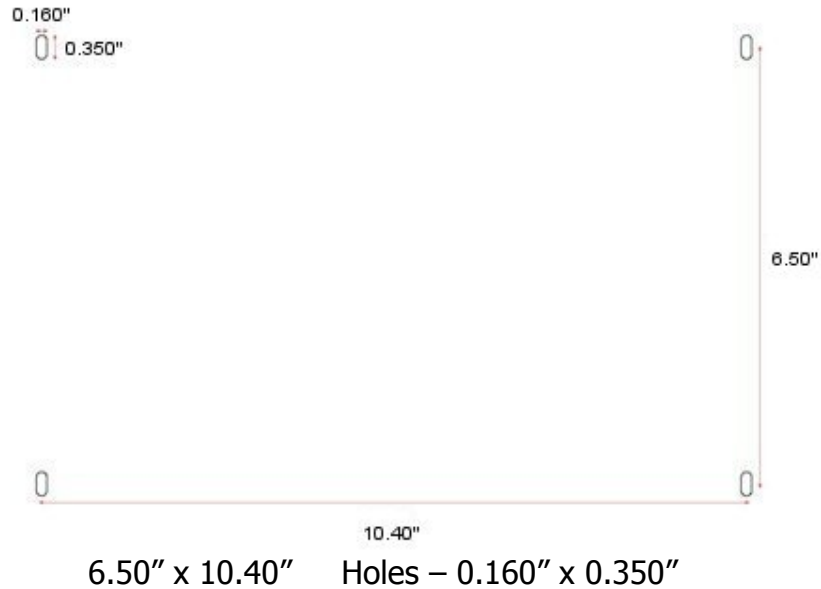

Figure 4 – Drilling Template
Step 1: Mark the holes according to the drilling template (Figure 4).
Step 3: Depending on the mounting surface, fasten the BinMaster 3DLinkPro to the wall with 4 screws according to the drilling template (Figure 4).